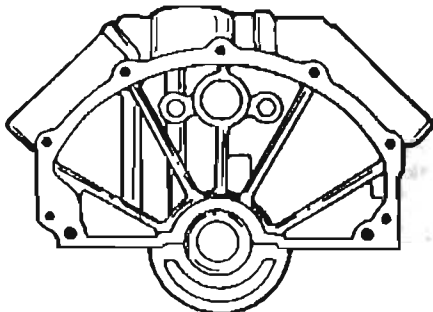
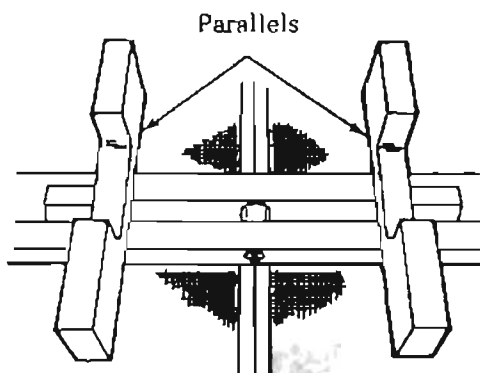

Figure 1
Figure 2
1. If engine blocks main bearing centerline is in line with its pan rails, (Figure 1), position Parallels upward (Figure 2).